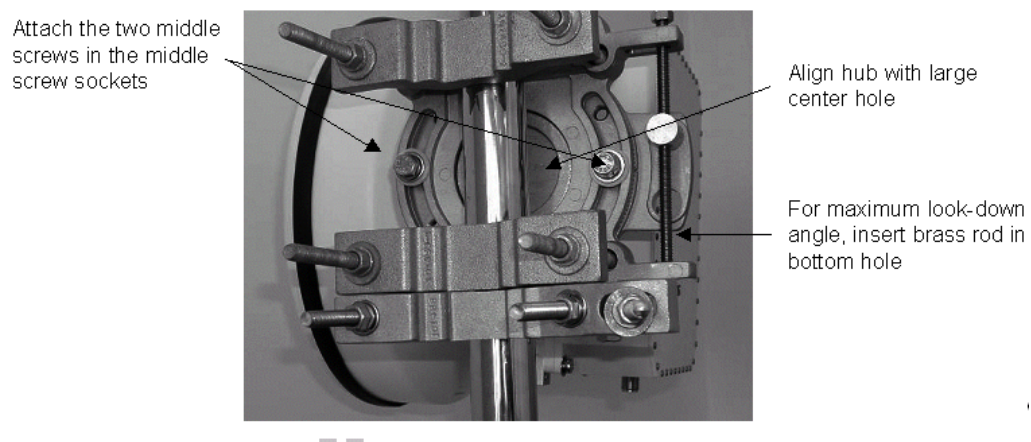
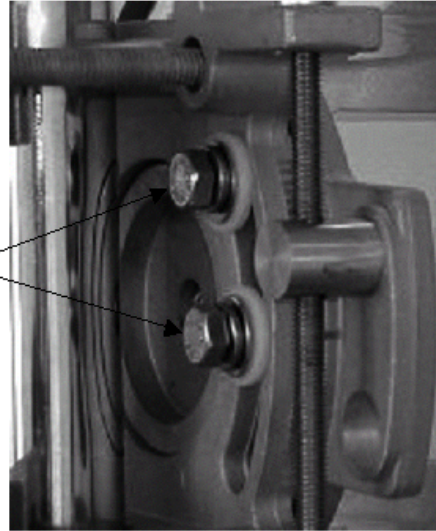

Figure 8-6: Elevation and Mount Assembly
Figure 8-7: Elevation and Mount Assembly
3. Align the large diameter hub on the elevation adjustment plate to the pole mount plate and insert the brass rod into the elevation adjustment hole as shown in Figure 8-6.
4. Attach the two plates using two of the four screws, but do not tighten them. The screws should be inserted in the middle screw sockets (see Figure 8-6) and should be used with the SS flat washers, split lock washers, nylon washers and hex bolts as shown in Figure 8-7.
7. Tighten the bolts so the hardware sits snugly against the pole, but do not tighten them fully, as shown in Figure 8-7.